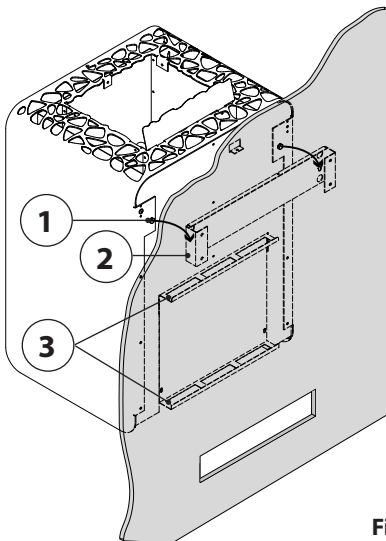

Fig. 5
- Hang the sauna heater with the two hexagonal heads (1) at the rear side of the heater into the wall bracket (2) and place it on the two spacers (3). (Fig. 5)